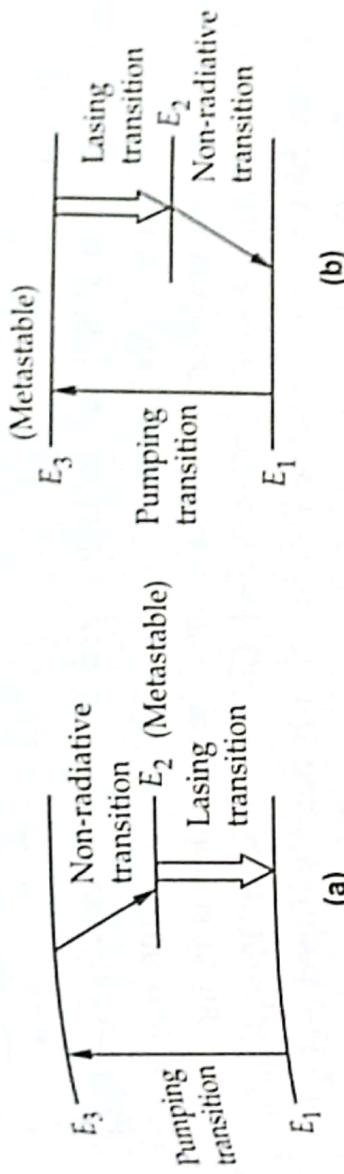

Fig. 6.9.1
a) Three level laser system : In these systems three energy levels are involved in the laser action. The atoms are pumped from the ground state E_1 to E_3 . Out of the two transitions from E_3 to E_2 and from E_2 to E_1 , one is a non-radiative transition and the other is the lasing transition as shown in Fig. 6.9.1 (a) and (b). The Ruby laser is an example of three level laser system.